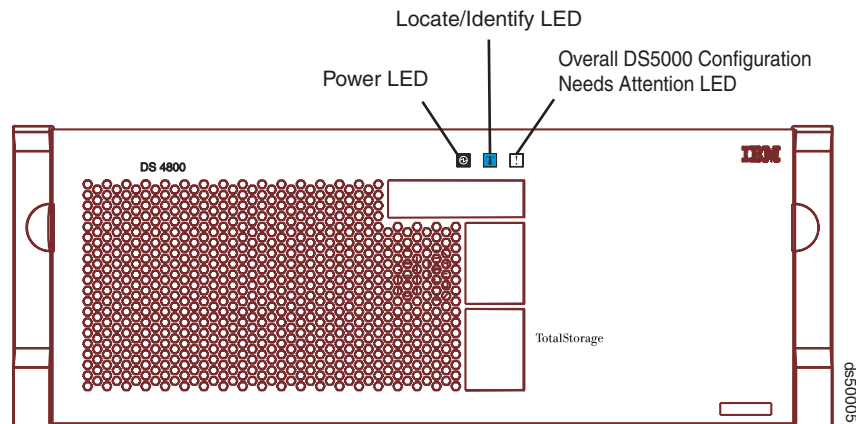

Figure 123. Overall Configuration Needs Attention LED on the DS5100 and DS5300 front bezel
2. Locate the storage subsystem that has the failed SFP module by checking the Overall Configuration Needs Attention LED on the front bezel of the storage subsystem. (Figure 123 shows the location of the Overall Configuration Needs Attention LED on the front bezel.)